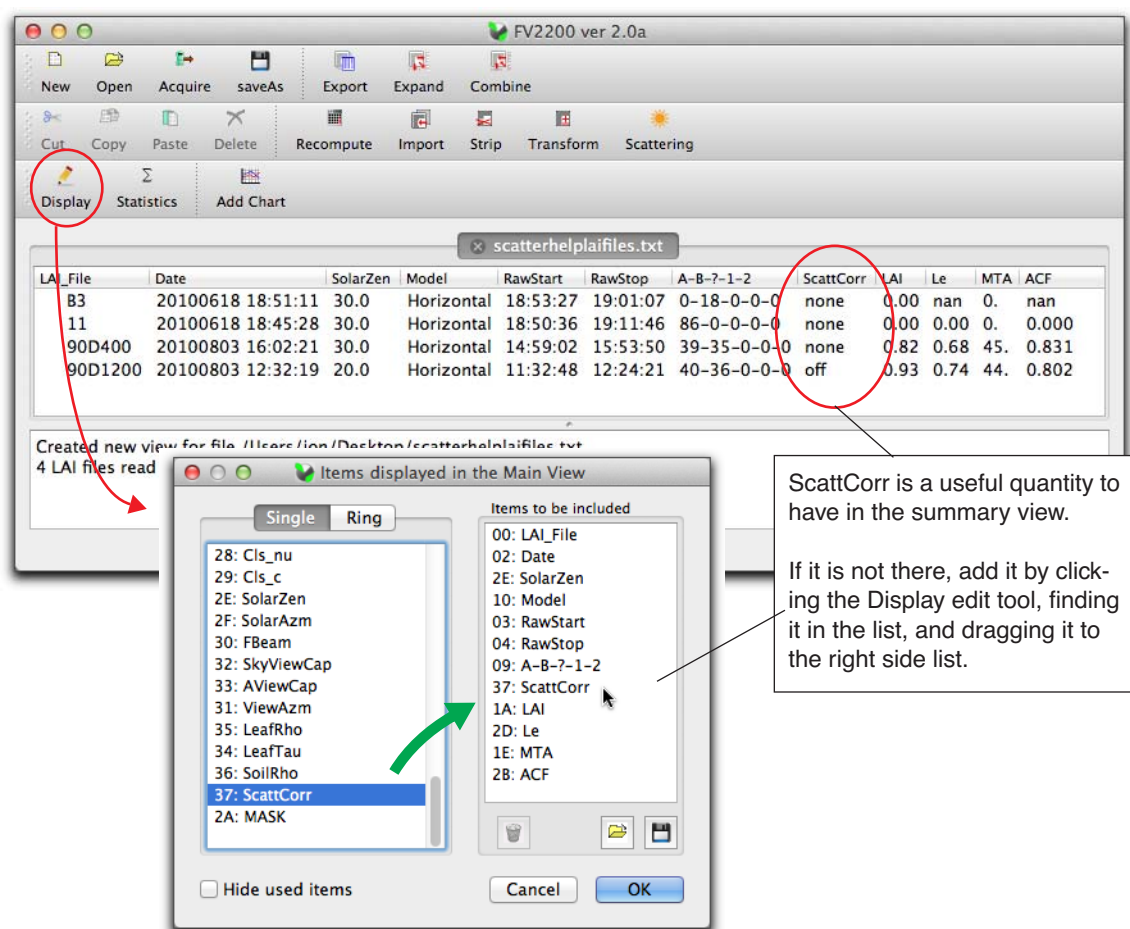

Figure 1: Preparing the main view for scattering corrections.
All computed values in FV2200 (LAI, MTA, Gaps, etc.) reflect the effects of the scattering correction if it is enabled; there are no duplicate sets of values (i.e. no LAI_with_scattering, LAI_without_scattering, etc.). There is one quantity (*ScattCorr*) however that tells you whether the correction has been applied to that file, and if so, how much it affected LAI (see Figure 5 on page 6). This is a quantity you’ll want displayed, and Figure 1 on page 3 shows how to set it up.
Step 1. Put the variable *ScattCorr* into the summary view (Figure 1). This tells you what files have been scatter-corrected, and by how much.